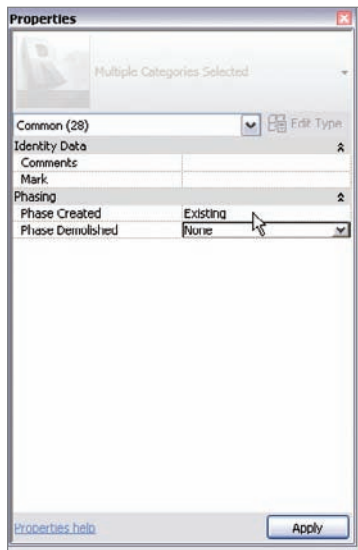

FIGURE 21.5 Setting Phase Created to Existing
5. In the Properties dialog, scroll down to the bottom where you see Phasing. For Phase Created, select Existing (see Figure 21.5).